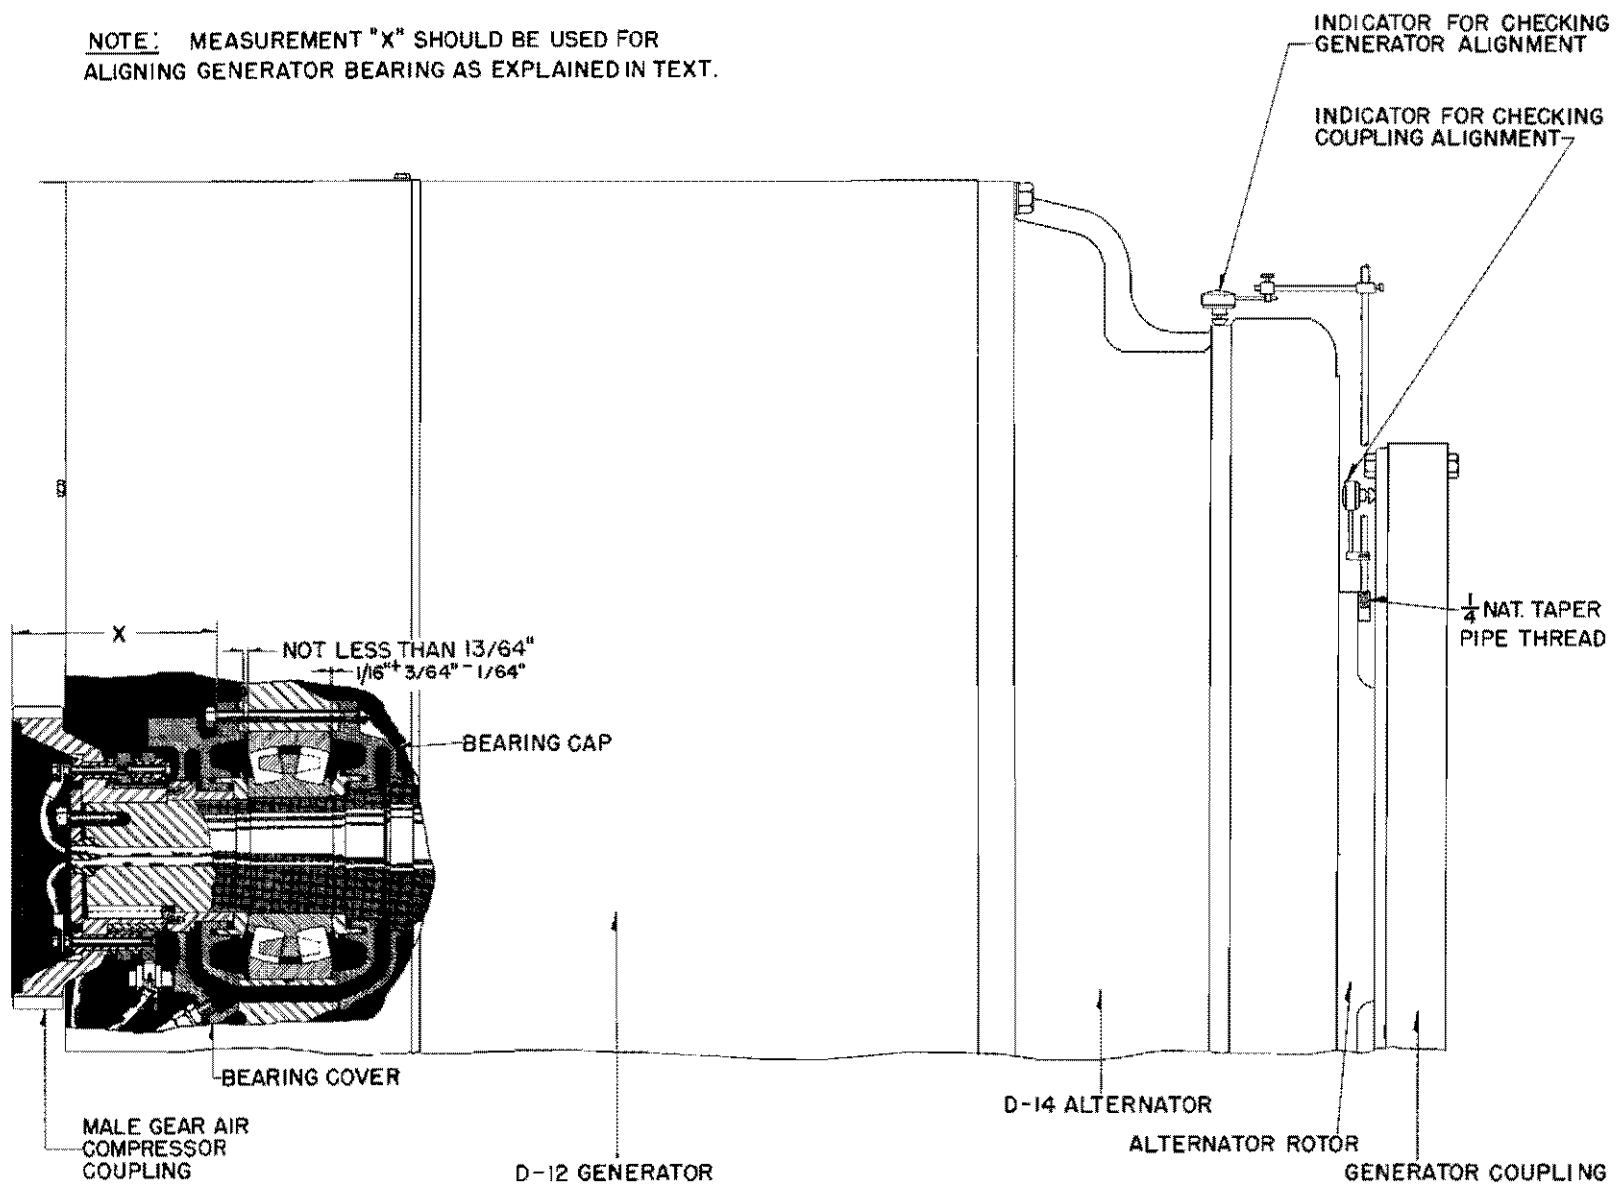

Fig. 18 - D-12 Generator Alignment
After generator is coupled to engine, it is very important to locate the generator frame so as to have the single bearing at the commutator end located axially in such a way as to avoid a thrust load in either direction. The generator has a bearing float of about $5/16$ " between the bearing cap and cover in bearing housing. This bearing float (end play) is stamped on bearing cover at lubricating tube. The bearing in the generator housing must be spaced as shown in Fig. 18.
- a. On locomotives having a gear type generator - compressor coupling, this stamped number is the measurement in inches from top right spot faced surface of the bearing cover to outer end surface of the male compressor coupling gear mounted on generator shaft. This measurement "X", Fig. 18, is about 9" when armature bearing in generator housing is flush with inside of the bearing cap.
1. By means of two indicators mounted on a rod which is screwed into a tapped 1/4" pipe thread hole in the D-14 alternator field spider, a measurement of the coupling misalignment and generator air gap variation is determined. Both indicators revolve with the armature shaft. The plunger of one indicator rides on the outside machined diameter of the alternator aluminum housing at the joint where the stator winding guard connects on to the housing, see Fig. 18.
3. After clamping the indicators on the rod, the plunger buttons of the indicators are brought to bear upon the surfaces as shown in Fig. 18. In setting the indicator, depress the plunger until the pointer makes one complete revolution or .100". There being .200" total revolving travel to the indicator pointer, there still is .100" "plus" left to work with, and the plunger can back out to show "minus" reading for total of .100".